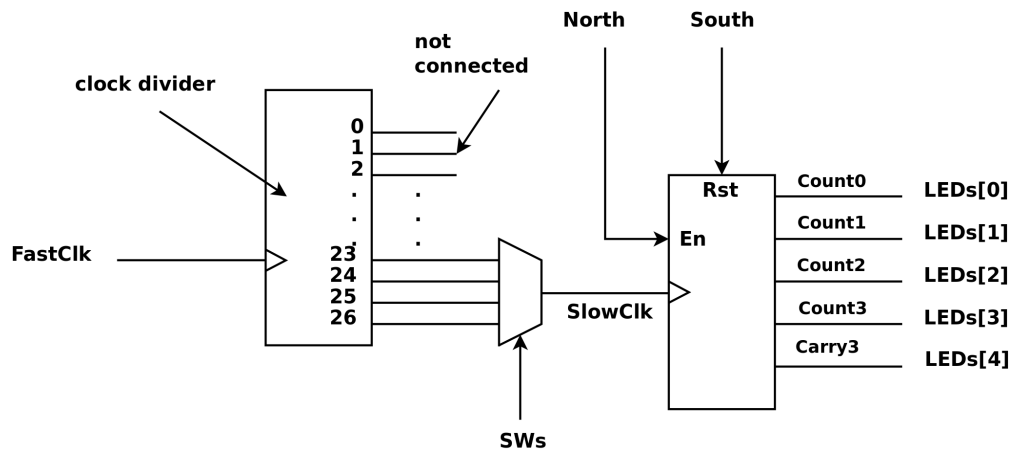

Figure 9: Top-Level Diagram
- (b) Create a source file called “top_level.v” and use the code snippet below to describe the circuit in Figure 9.
- (c) Create a file called “top_level.ucf” and save it in your lab9 directory. Type the UCF starter code shown below. Unfortunately, portions of the UCF are missing. Using the UCFs from the previous labs and Figure 9 as a guide, fix this UCF. You may also find the Spartan 3E User Guide from Xilinx helpful.